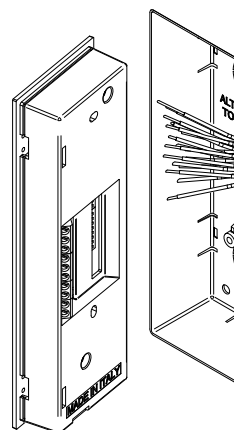

Fig. 2
2. As shown in **Fig. 2**, connect the wires using a flat screw driver then setup the dip-switches as per provided connection diagram or instruction sheet.